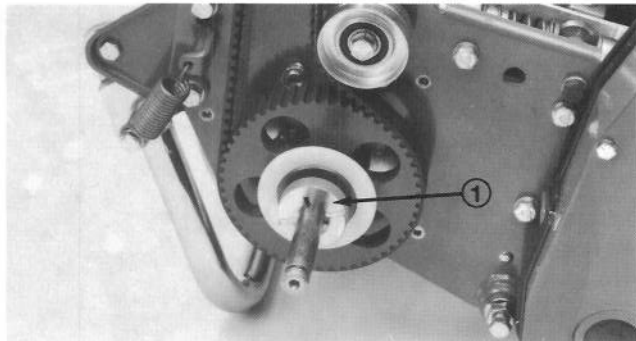

Figure 6
3. Slide a lock collar onto axle. Be sure the step in the collar faces out and the key on the axle engages the keyway in the lock collar (Fig. 6).